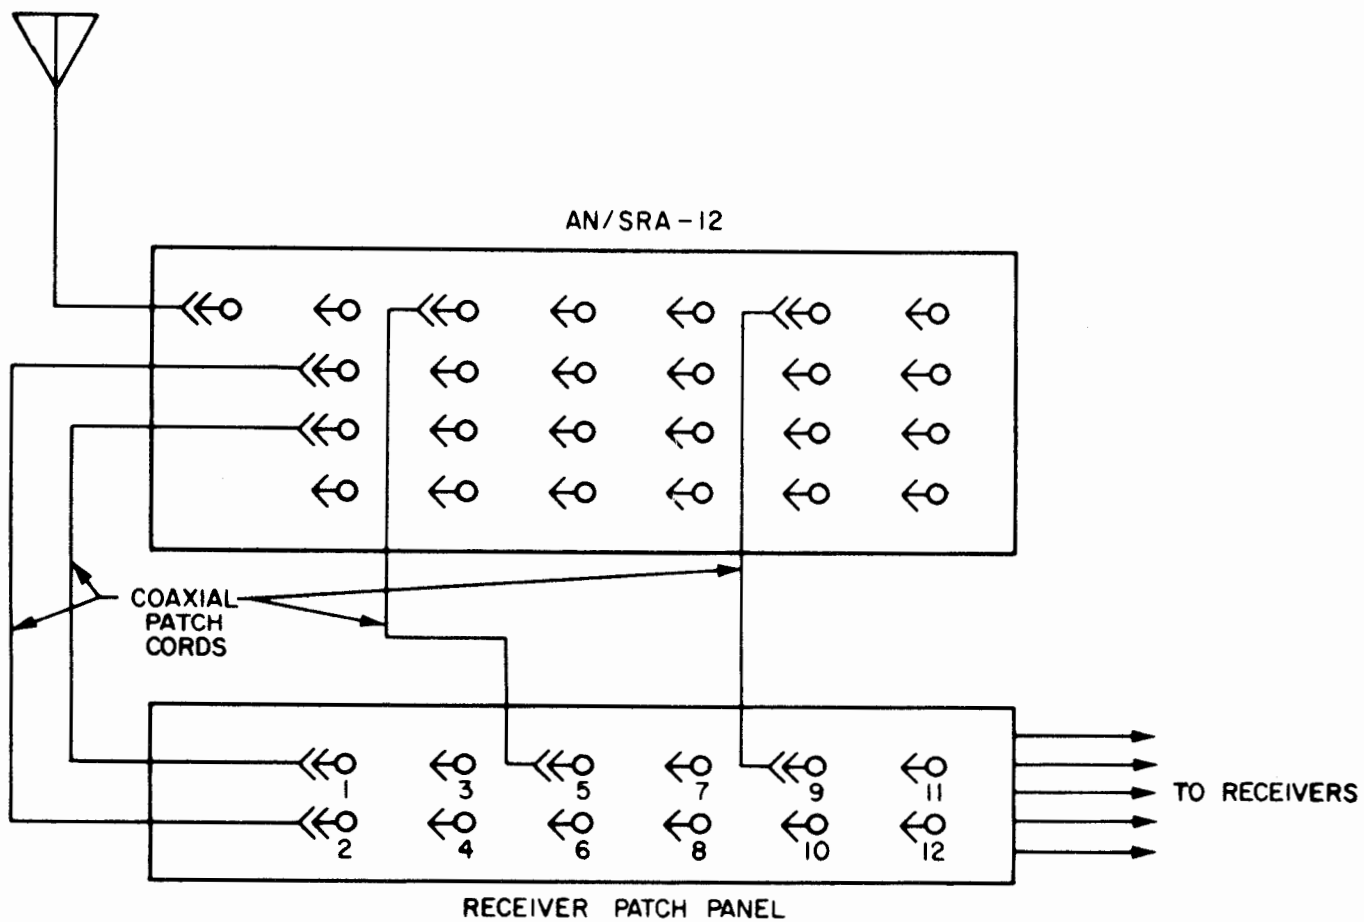

Figure 5-2 Electrical Filter Assembly AN/SRA-12
c. INTERCONNECTION DIAGRAM. - See Figure 5-2.